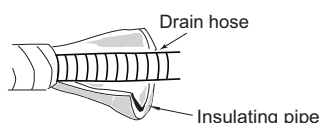

Fig.10
- (1) Add insulating pipe in the indoor drain hose in order to prevent condensation.
- (2) The plastic expansion particles are not provided.
- (As show in Fig.10)